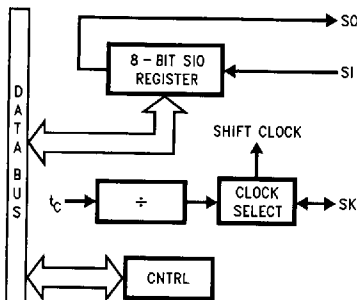

FIGURE 7. MICROWIRE/PLUS Block Diagram
MICROWIRE/PLUS is a serial synchronous bidirectional communications interface. The MICROWIRE/PLUS capability enables the device to interface with any of National Semiconductor's MICROWIRE peripherals (i.e. A/D converters, display drivers, EEPROMs, etc.) and with other microcontrollers which support the MICROWIRE/PLUS interface. It consists of an 8-bit serial shift register (SIO) with serial data input (SI), serial data output (SO) and serial shift clock (SK). Figure 7 shows the block diagram of the MICROWIRE/PLUS interface.